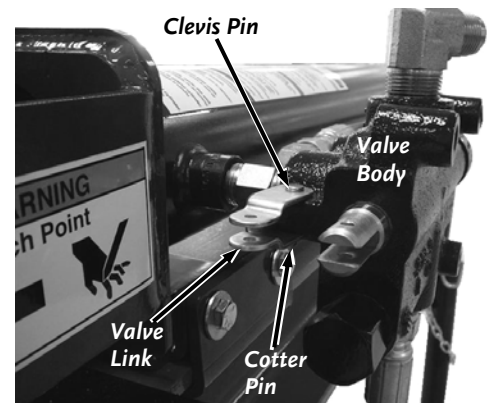

Figure 15
14. Install the valve link onto the valve body (**Figure 15**) using a 1/4 x 1 inch long clevis pin (install clevis pin from the top). Secure the clevis pin with a cotter pin (bend the ends of the cotter pin to make it secure).